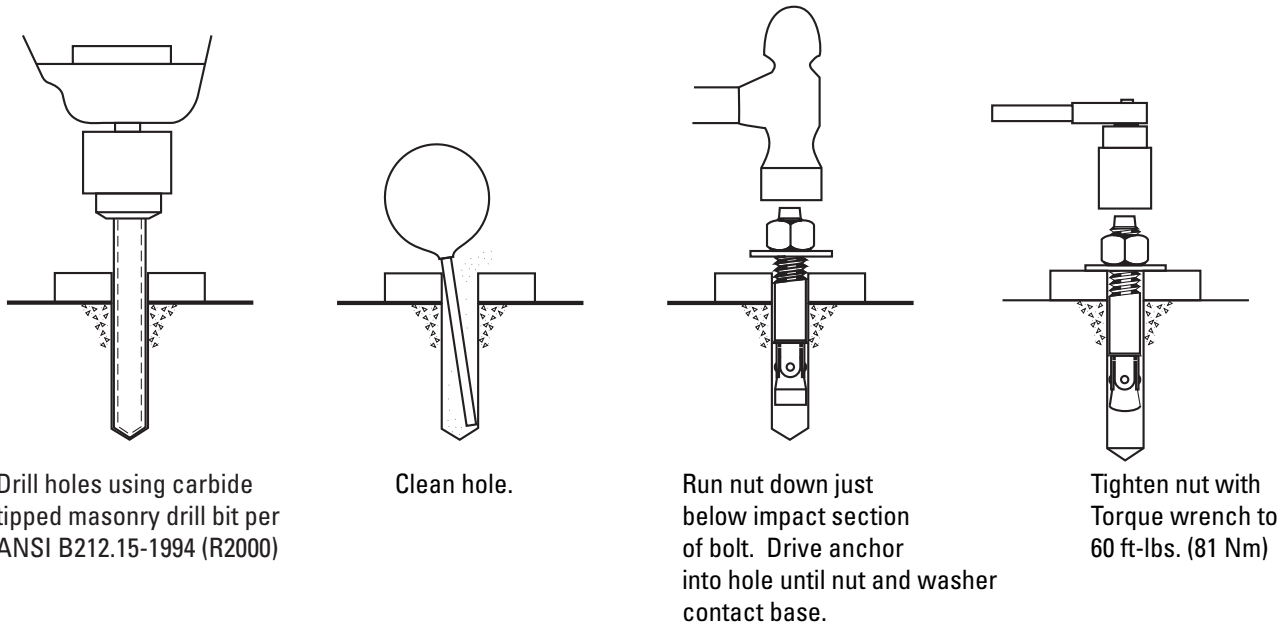

Fig. 12a
- C. Place shims (estimated in Step 3) under each column. Drill four 5/8" diameter holes through concrete floor using base holes as guide. See Fig. 12a and 12b for hole depth, hole spacing, and edge distance requirements. Repeat for other columns.